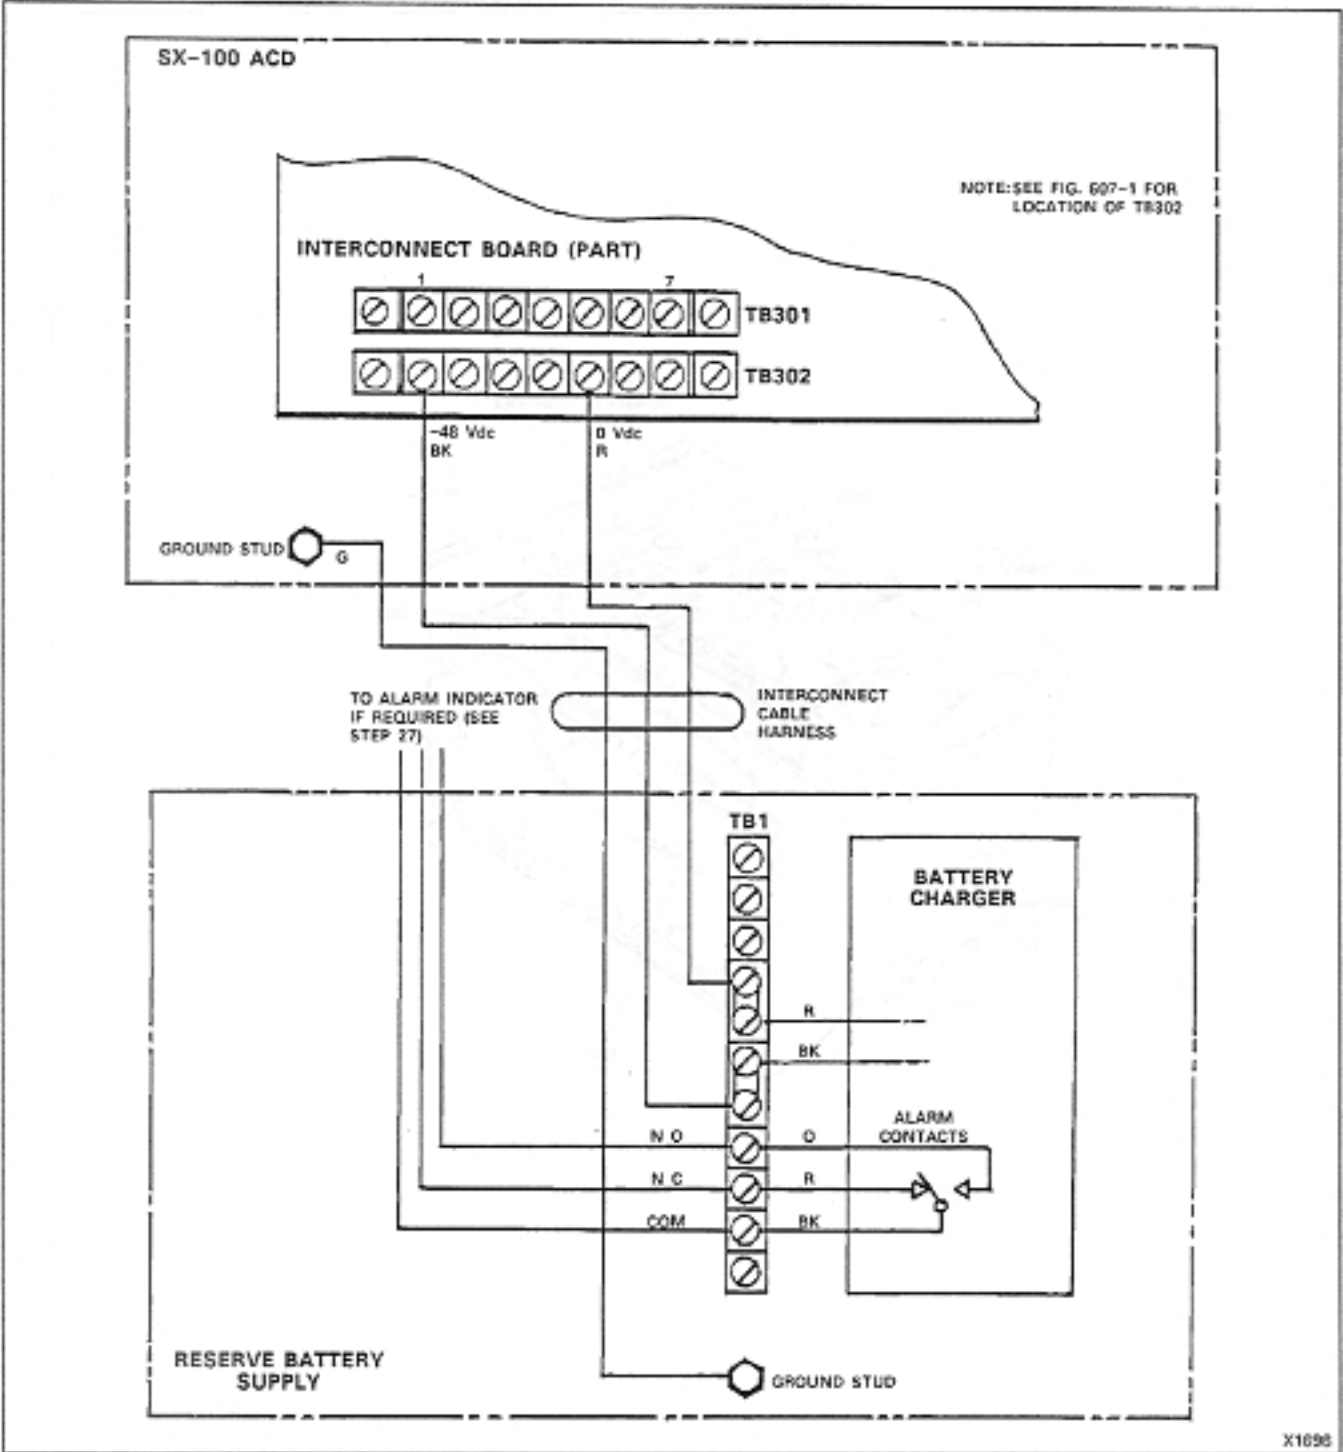

Fig. 607-2 Cable Harness Interconnections
Alarm contacts are provided by the charging unit. These are available for customer-provided alarm indicating equipments to indicate power-fail conditions. Fig. 607-2 shows the normal operational condition; i.e. a power-fail condition causes the normally open (NO) and common (COM) contacts to close. The alarm contact electrical ratings are as follows: